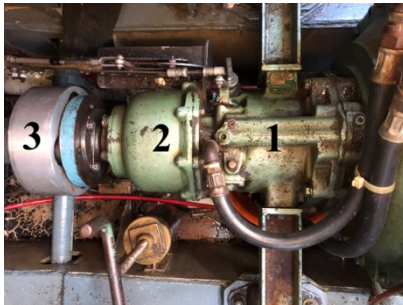

Figure 1 Engine Aft studs
Now let us prepare the aft engine studs for removal. The studs can be seen in fig 1, below and above the # 1 in the left picture. The engine studs are attached with 2 bolts to the drive. So, to be able to remove the drive, we must remove the studs from the drive. But before that follow the items 1-3 as described below